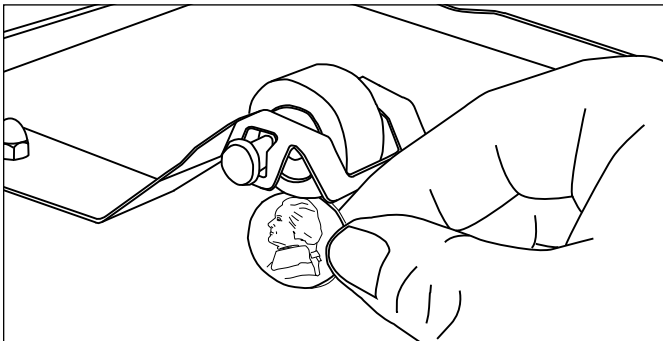

Figure 13. Measuring Roller Tensioner Assy.
1. Measure the Roller Tensioner on both inner Conveyor Covers (Figure 13). The space between the inner Conveyor Cover and bottom of the tensioner wheel should be $13/16"$ (2.1 cm) or the height of a U.S. Nickel. Adjust or replace any damaged ones as recommended.